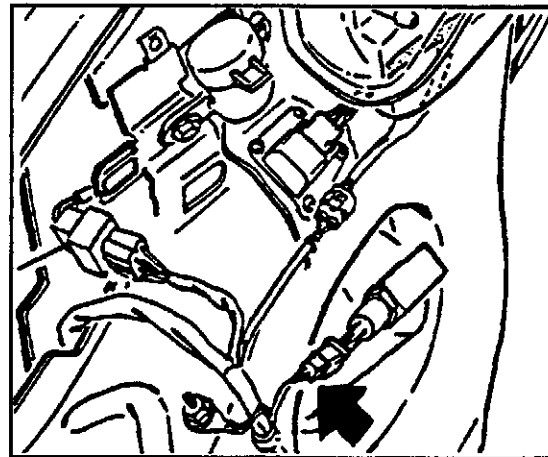

Figure 3. 4-pin connector (H4-12).
3. Unplug the 4-pin connector (H4-12) for the radiator fan pressure switch, AC and ACC, and disconnect the blue lead (881B BU 0.5) from position 3. Refer to Figure 3.